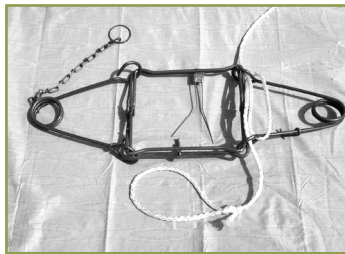

Figure FS5b. Step 2
- 2) Bring the rope around and thread it back through the eyes a second time (Figure FS5b).